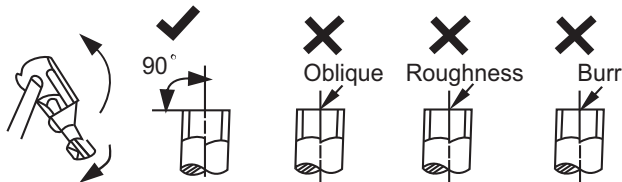

Fig. 36 — Pipe Cutting
- a. Cut the pipe, with a pipe cutter, at 90 degrees (see Fig. 36).